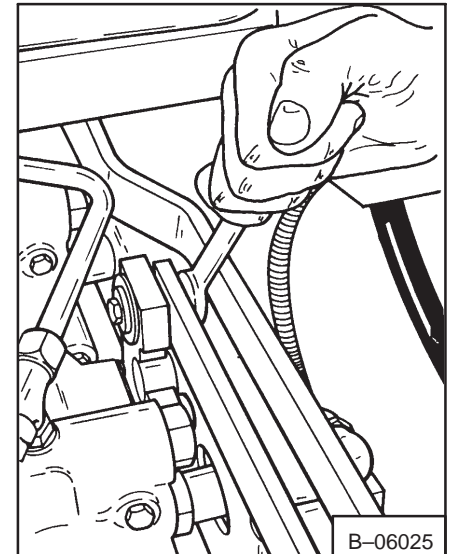

Fig. 3-14 Pintle Lever Bolts
3. Loosen the nuts and bolts at the pintle levers (Fig. 3-14).